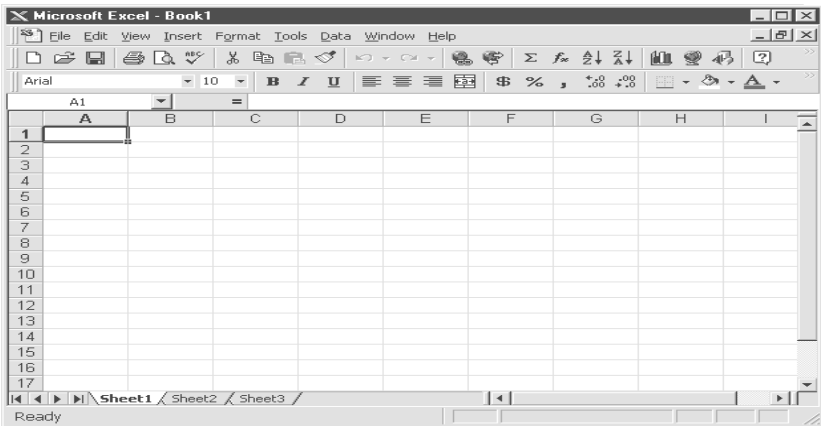

Figure C-1 Excel Window
1. Export the event data to a tab delimited text file, as described in Section 5.6.6: **Export the displayed data to a text file.** Assume we have just export the event data to a file called TextEvent.txt in C:. To convert that file to a MS-Excel file, open the MS-Excel software, as shown in Figure C-1.